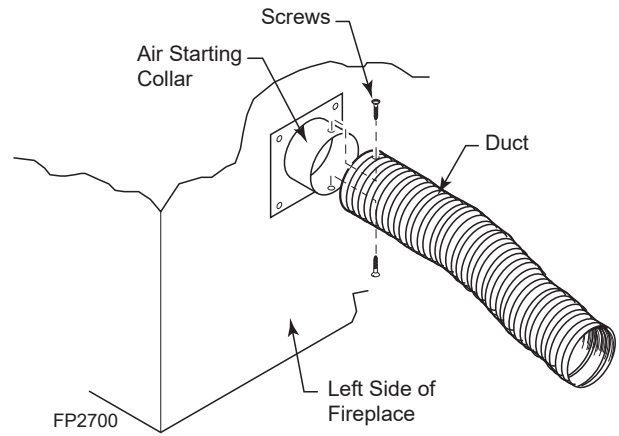

Figure 17 - Attach Outside Duct to Starting Collar
4. Attach outside duct to starting collar with duct clamp or screws. *Figure 17*
6. Select and cut a piece of duct long enough to attach to the fireplace and stick out at least 3" beyond the face of the wall to which the AK4 inlet air vent will be attached. *Figure 17*